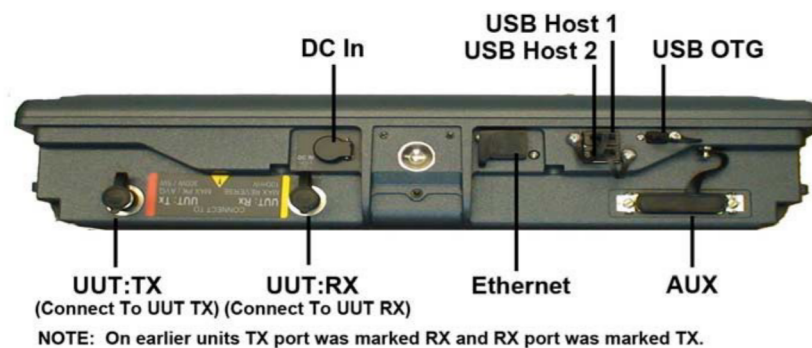

Figure 1-3 ALT-8000/8015 Top Panel
- Connect the cable with the yellow ends (P/N 88511) to the UUT:RX (Yellow) connector on the top panel of the ALT-8000/8015. See Figure 1-3.
- Connect the cable with the red ends (P/N 89527) to the UUT:TX (Red) connector of the ALT-8000/8015. See Figure 1-3.